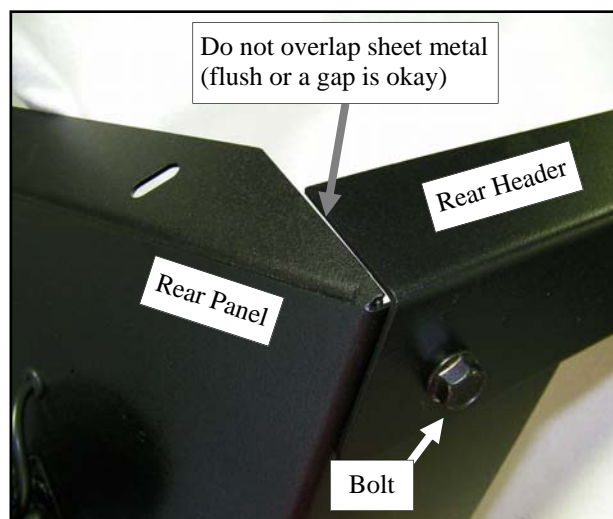

Fig. 6.1 (view of passenger's side)
**6.1** Per fig. 6.1, align the rear edge of the header with the top edge of the rear panel and install the rear bolt. **Install finger tight at this time.**